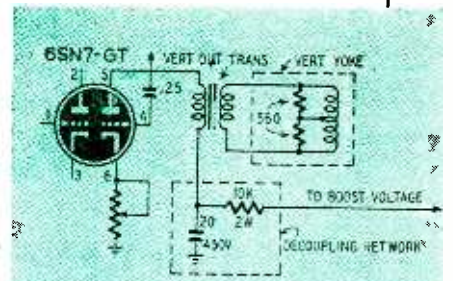

Fig. 7—Another height control circuit. More B-plus is applied in this way.
3. For additional height, reduce the value of any resistor in series with the B-plus side of the vertical output transformer primary. If necessary connect the primary to the boost voltage through a decoupling network of approximately 10,000 ohms, 2 watts, and 20 μ f, 450 volts as in Fig. 7. As this will load down the boost voltage and reduce the high voltage somewhat, use the